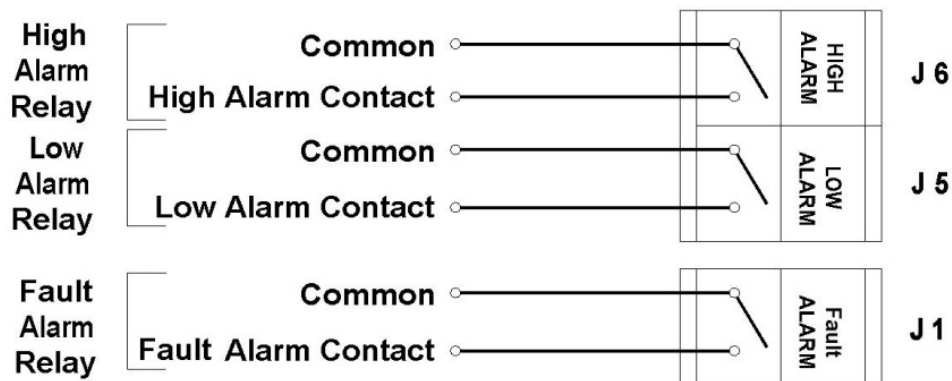

Figure 4-1 Alarm Relay Connectors J6, J5 and J1
To connect the **iTRANS-2** control wires to the three relay terminals on the relay board, wire the unit to the connectors shown in Figure 2-4. The low alarm relay is activated when the low alarm threshold is met. This is a non-latching, Normally Open (NO) contact. The high alarm relay is activated when the high alarm threshold is met. This is a non-latching, Normally Open (NO) contact. The fault alarm relay is activated upon power-up of the **iTRANS-2**. When the fault condition is met, the circuit opens. This is an Electronically closed (NC) contact. See Figure 4-1 for relay wiring.